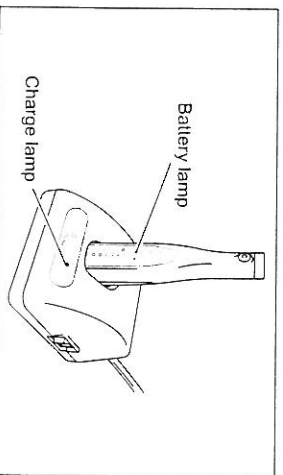

Fig. 13
- 4 Remove the contra angle head from the motor handpiece and mount the motor cap onto it. (Refer to "10. MOTOR CAP") Insert the motor handpiece into the battery charger with the operation panel facing forward. If the motor handpiece power is on, it will be turned off automatically when inserted into the battery charger. Charging starts with the charge lamp turned on. The battery lamp of the motor handpiece lights. (Fig. 13)